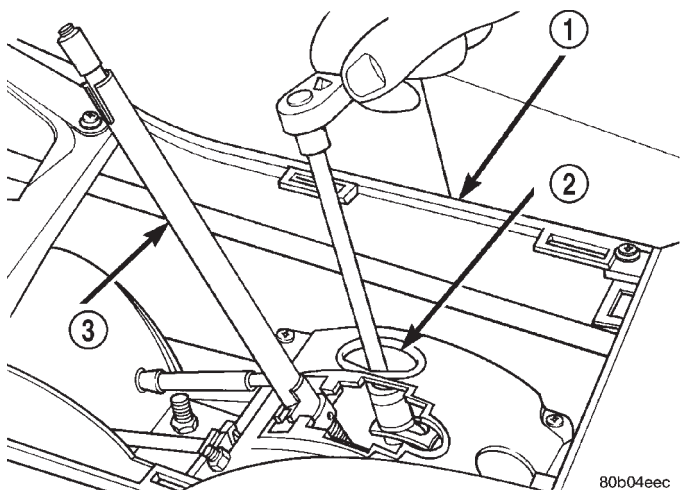

Fig. 53 Shift Cable Adjust Lever Nut
- (2) Remove shift handle from shifter assy.
- (3) Remove console bezel from vehicle.
- (4) Loosen nut on shift cable adjust lever (Fig. 53).
(12) Tighten the adjuster nut (Fig. 53).